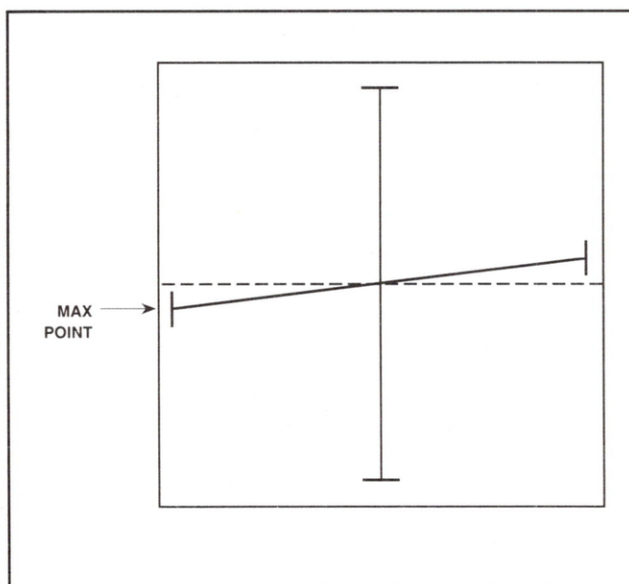

Figure 4
7. Confirm the maximum point by pressing the downward arrow key and moving the line in the MAX direction. If distortion such as that shown in Figure 1 occurs during adjustment, the maximum point is just before distortion appears. (See Figure 4.)